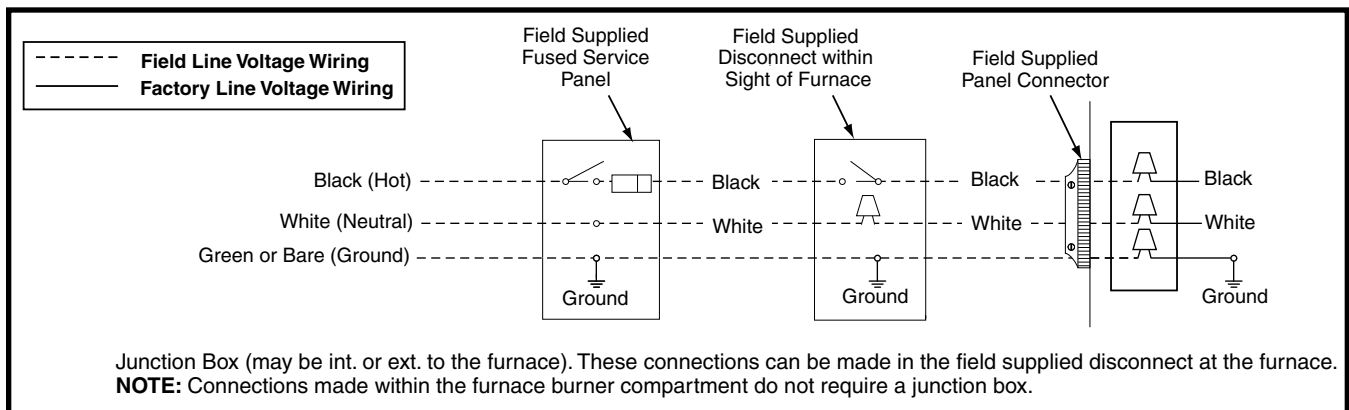
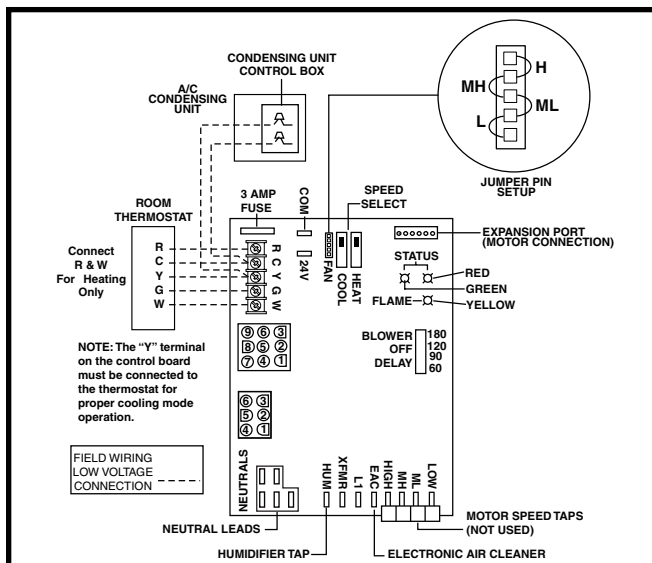

Figure 14. Line Voltage Field Wiring
Figure 15. Low Voltage Field, Four-wire Heating/Cooling Applications
- **An electrical disconnect must be installed readily accessible from and located within sight of the furnace. See Figure 14 or the wiring diagram label inside of the control door. Any other wiring methods must be acceptable to authority having jurisdiction.**
- **Proper line voltage polarity must be maintained in order for the control system to operate correctly. Verify the incoming neutral line is connected to the white wire and the incoming “hot” line is connected to the black wire. The furnace will not operate unless the polarity and ground are properly connected as shown in Figure 14.**
- The thermostat must be installed according to the instructions supplied by the thermostat manufacturer. Low voltage connections (24 VAC) from the thermostat are wired to the terminal strip on the integrated control in the furnace. Figure 15 contains the proper connections for heating only (two-wire) and heating/cooling (four-wire) applications. Recommended minimum wire gauge for thermostat wiring is shown in Table 2, \(page 18\).
- The six pin terminal marked “Expansion Port” (Figure 15) is not used in the single stage furnace as shipped from the factory. It is used for the furnace control board to communicate to a fixed speed or variable speed high efficiency motor that may be optionally installed. Please contact your distributor for the proper upgrade motor kit.
- ✓ Verify the jumper setting (for fan speed) on the control board. See Figure 15, \(page 18\).
The operating sequences for the heating, cooling, and fan modes are described below. Refer to the field and furnace wiring diagrams: Figure 14, \(page 18\), Figure 15, \(page 18\) and Figure 19, \(page 24\).
- When the thermostat energizes the **G** terminal for continuous fan (without calling for heat or cooling), the indoor fan is energized on the selected FAN speed. See Figure 15, \(page 18\).